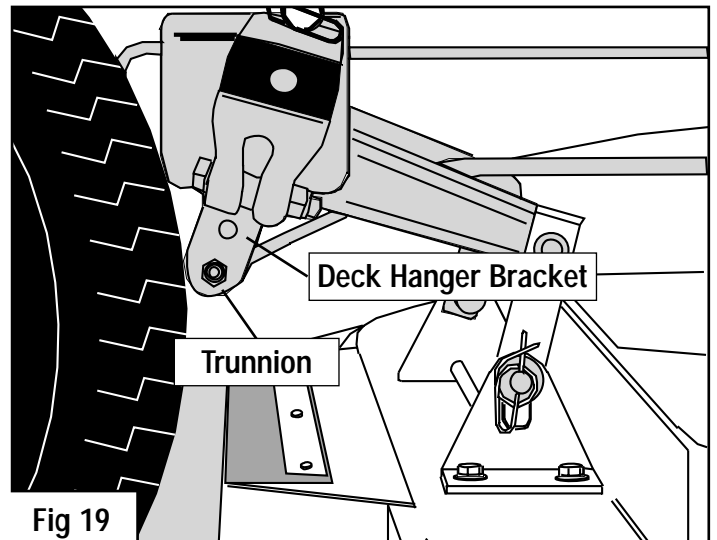

Fig 19
2. Are the Cutter Deck Hanger brackets (fig 19) moving freely or are they hitching up. To check this, lift the Cutter deck to its highest position and lift and rock it, watching to ensure that the brackets move freely – if not, clean and grease.
3. Now locate the Front to Back Adjustment Rod to the right near offside wheel, you will find the Trunnion (fig 19) that links the rod to the Deck Hanger Bracket. Both the Trunnion and the Rod are threaded and adjustment is achieved by rotating the Trunnion to 'in-effect' lengthen the Rod.